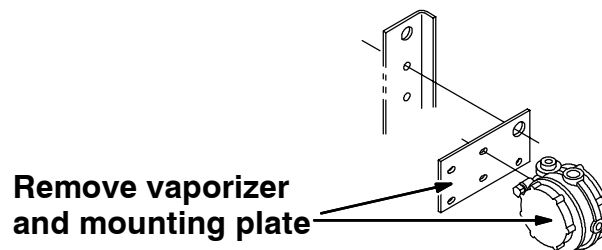

FIG. 2 - REMOVAL, VAPORIZER AND MOUNTING PLATE
7. Disconnect and discard the vaporizer and mounting plate from the machine. (Refer to FIG. 2)